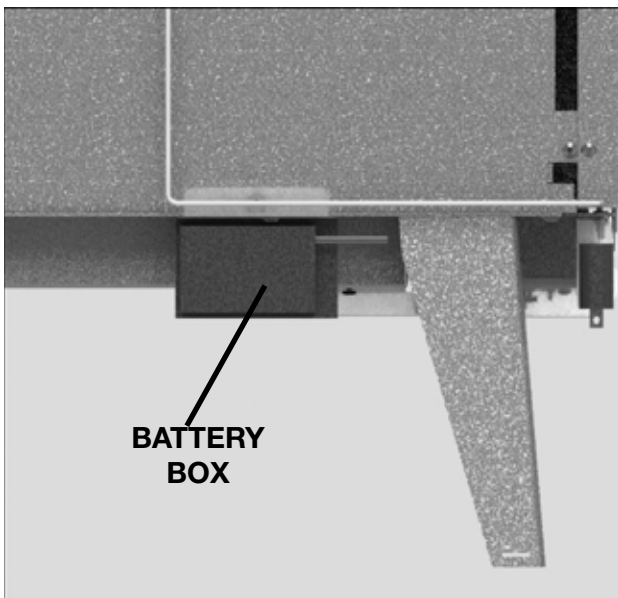

Figure 19: Battery Box
4. Engage the magnet on the Battery Box Assembly under the right, side panel and against the right, firebox side. Figure 19 (Right is "your right" and determined when standing facing the front of the unit.)